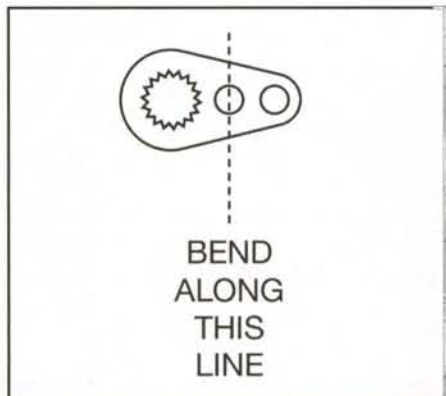

Figure 6. Where to bend the ground lug to form the bracket that holds the large gear to the EL rotator collar.
3. Next you will need to fabricate two tiny rightangle brackets to attach the gear to the collar. Modify two ground lugs to accept a 6-32 thread through the star washer portion. A small round file will work fine for this. Bend the two ground lugs as indicated in figure 6. Hold the gear in place against the large protrusion on the collar using a small clamp. Slide up the two small brackets approximately 90 degrees apart and make a mark on the plastic gear where the outermost solder hole is located. Drill  $.077$ " ( $\frac{5}{64}$ " ) diameter holes at each location to accept a 2-56 screw. Attach the gear to the brackets using  $\frac{1}{4}$ "  $\times$  2-56 screws, lock-washers, and nuts. Replace the gear and brackets on the collar and reclamp it in place. Drill a hole for a 6-32 screw at each location in the collar where the star washer part of the bracket meets the collar. Install flat head 6-32 screws from inside the collar to secure the brackets in place. (You must use a flat-head screw so it doesn't prevent passing the cross